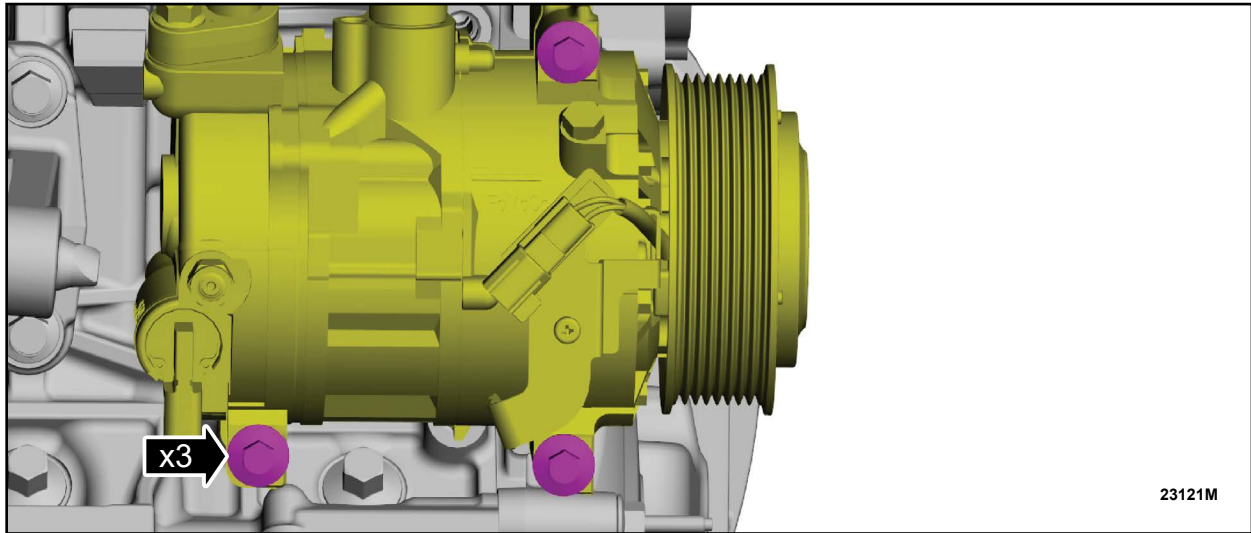

FIGURE 11
25. Remove the bolts and position the A/C compressor aside. See Figure 11.